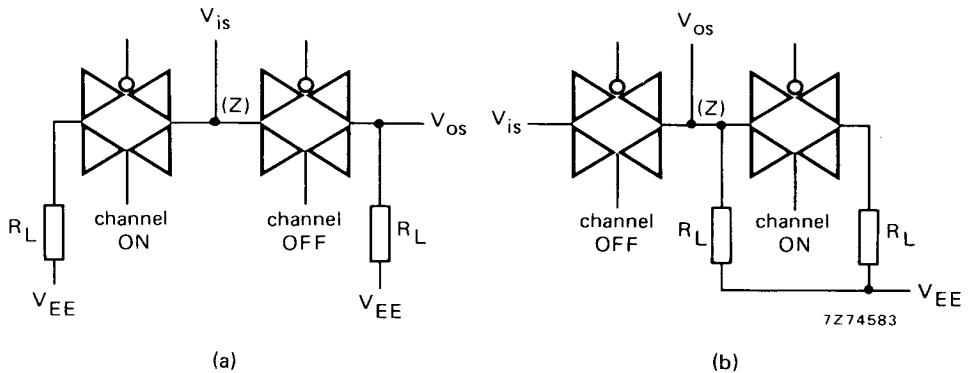

Fig. 10.
- $R_L = 1 \text{ k}\Omega$ ;  $V_{is} = \frac{1}{2} V_{DD(p-p)}$  (sine-wave, symmetrical about  $\frac{1}{2} V_{DD}$ );  $20 \log \frac{V_{os}}{V_{is}} = -50 \text{ dB}$ ; see Fig. 10.